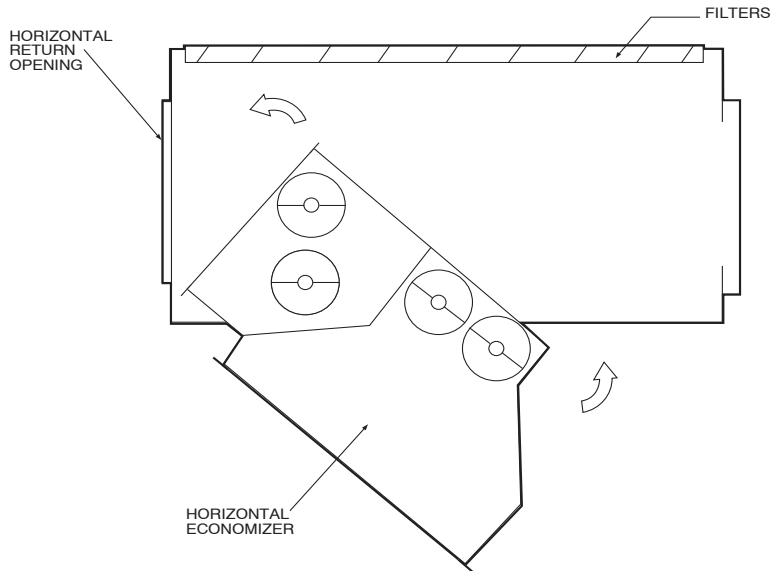

Fig. 15 – Horizontal Economizer Installation (Top View)
6. Slide the EconoMiSer IV assembly into the return air section of the rooftop unit as shown in Fig. 15. When installed, the front flanges of the EconoMiSer IV will be flush with the rooftop unit. Angle the return side of the EconoMiSer IV into the unit first. Slide the EconoMiSer IV in until the return damper covers the horizontal return air opening.